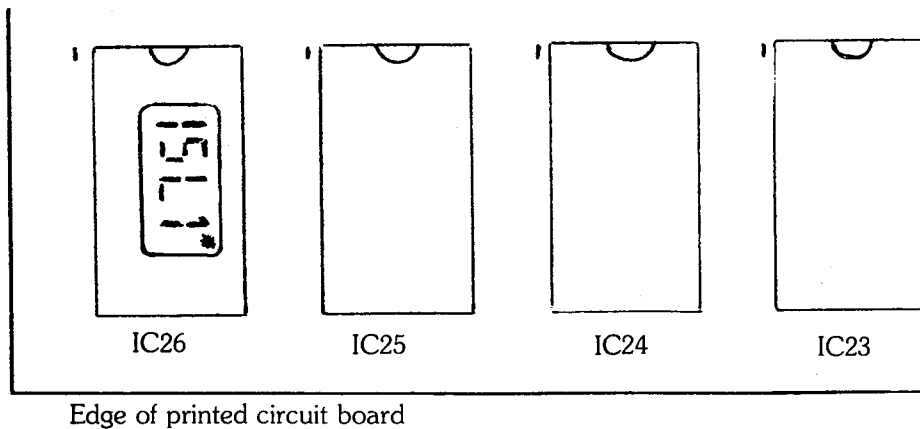

FIGURE 7: EPROM ORIENTATION
- iv) Read the instructions sent with the EPROM. The EPROM must be a type 2732 and must be inserted in the correct socket, the correct way round - as shown in figure 7.